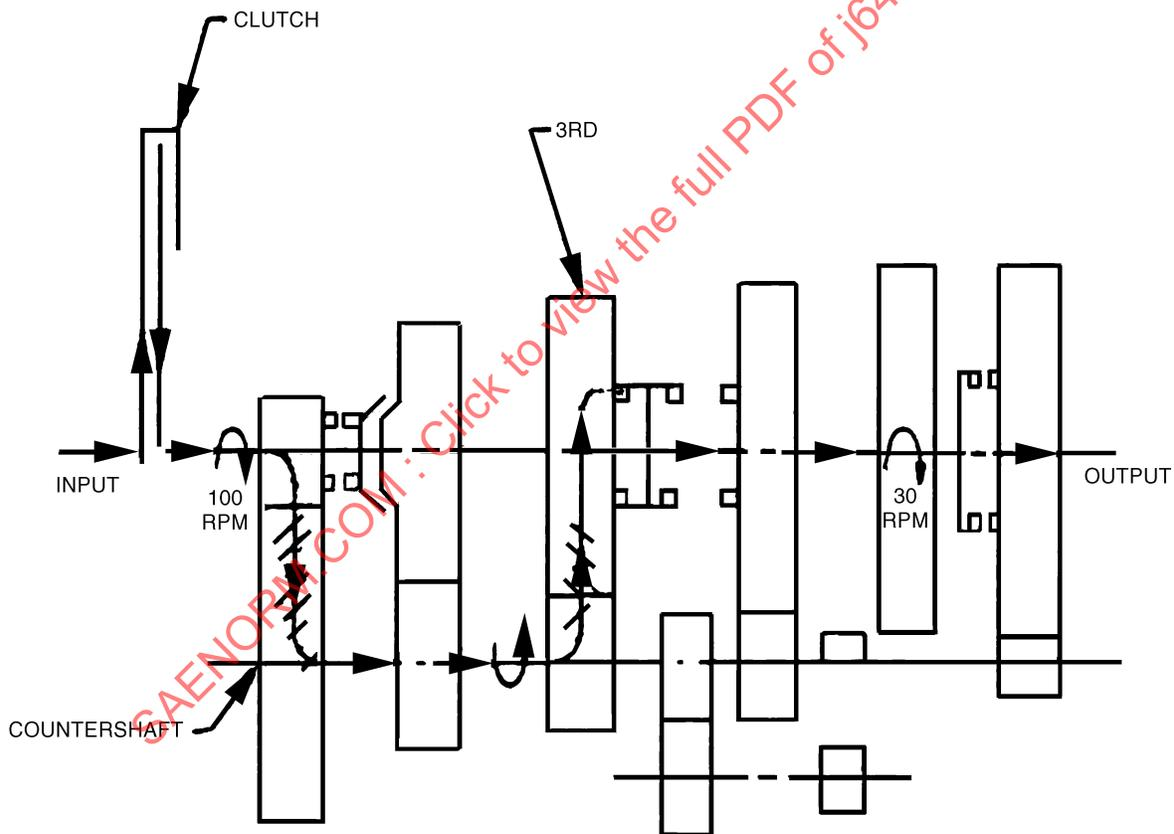

FIGURE 6—FIVE-SPEED TRANSMISSION DIAGRAM—3RD SPEED
4.1 Figures 6 and 7 illustrate the countershaft transmission and the first planetary gear transmission in gear with the torque path denoted by straight bold arrows. Curved arrows indicate direction of shaft rotation. Active members are designated with sections crosshatched.
4.2 **Countershaft Transmission (Figure 6)**—In third, for example, the mainshaft third gear is clutched to the output shaft. This is schematically illustrated by means of the drive dog engaging the lug in the gear.